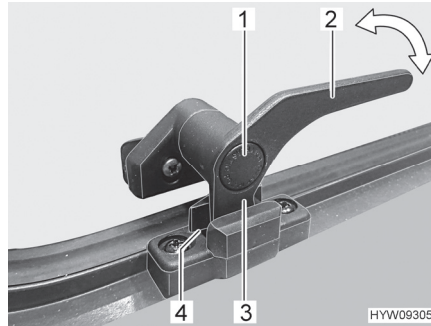

Fig. 63 Catch lever ("continuous ventilation" position)
- "Continuous ventilation" (Fig. 63)
- Press the safety knob (Fig. 63,1) and keep it pressed.
- Turn the catch lever (Fig. 63,2) a quarter turn towards the centre of the window.
- Return the catch lever to its initial position. Move the locking catch (Fig. 63,3) on the catch lever into the recess of the window catch (Fig. 63,4).
- Release the safety knob (Fig. 63,1).